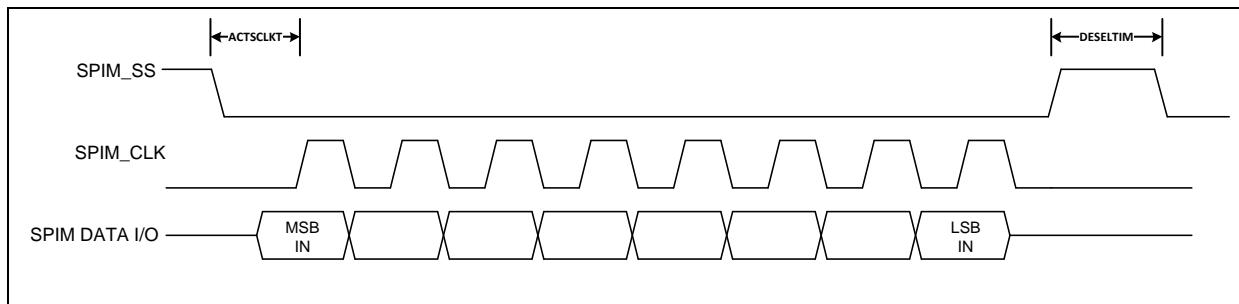

Figure 6.21-11 SPIM_SS Active Setup Time Relative to SPIM_CLK, and SPIM_SS Deselect Time
[31:28]	ACTSCLKT SPI Flash Active SCLK Time (Only for Direct Memory Mapping Mode, DMA Write Mode, and DMA Read Mode) The bits set time interval between SPIM SS active edge and the position edge of the first serial SPI output clock, as shown in Figure 6.21-11. (1) ACTSCLKT = 0 (function disable): Time interval = 1 AHB clock cycle time. (2) ACTSCLKT ≠ 0 (function enable): Time interval = (ACTSCLKT + 3) * AHB clock cycle time. Note1: AHB clock cycle time = 1/AHB clock frequency. Note2: SCLK is SPI output clock Note3: Please check the used SPI Flash specification to know the setting value of this register, and different SPI Flash vendor may use different setting values.